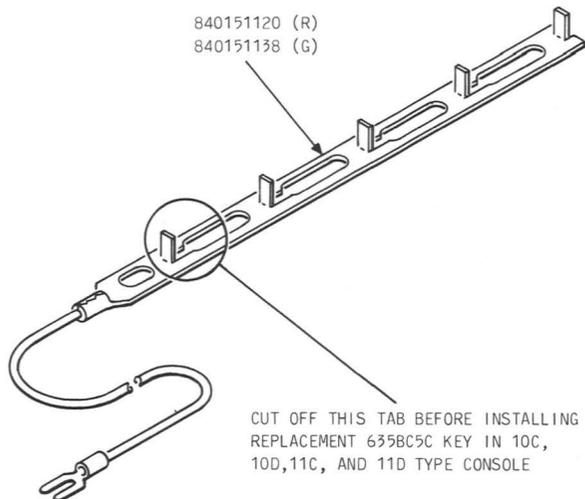

Fig. 12—Modification of Contact Strips on 635BC5C Key
4.14 Consoles manufactured from July through September of 1977 contain contact strips on the 635BC5C keys which must be modified for proper operation. In addition, the contact strips used with 635BC5C keys manufactured after June 1, 1977, must be modified before the keys are used for replacement purposes in 10C, 10D, 11C, and 11D consoles and 31- and 32-type apparatus units. The modification consists of cutting off a tab on each of the contact strips mounted on the bottom of the key (Fig. 12). To modify keys already installed in consoles, follow this procedure:
- (1) Remove the console housing as described in paragraph 4.12.
- (2) Remove the two screws which hold down the 635BC5C key (the left key, nearest the dial).
- (3) Carefully lift the key out of the console and disconnect the six colored plugs on the bottom of the key. (Note the positions of the plugs so that they can be reinstalled correctly.)
- (4) Lift the lead end of each contact strip up and use diagonal cutters to snip off the last tab (Fig. 12).
- (5) Press the contact strips back down flat on the bottom of the key.
- (6) Reconnect the colored plugs to the key in their original positions.
- (7) Put the key back into the console, being sure that the latch arm at the upper end of the key has its notch properly engaged with the pivot bar.
- (8) Secure the key to the console with the two screws.